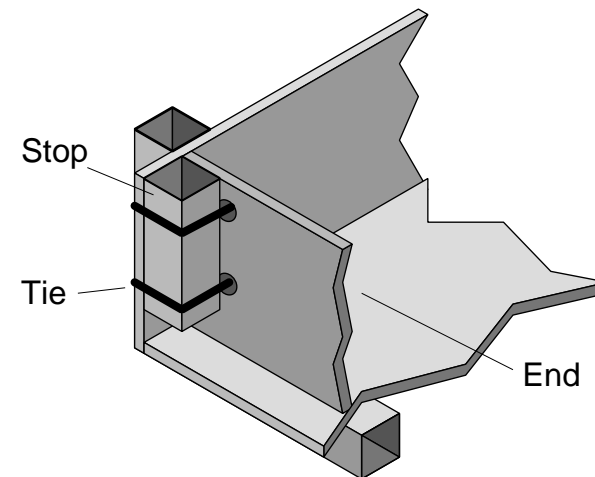

Figure 8: method of fixing tray ends with rubber or rope
- 6) If you want to make it so that the ends of the load tray can be removed easily you can do so in the way we have shown in Figure 8. This is a good way because it is cheap